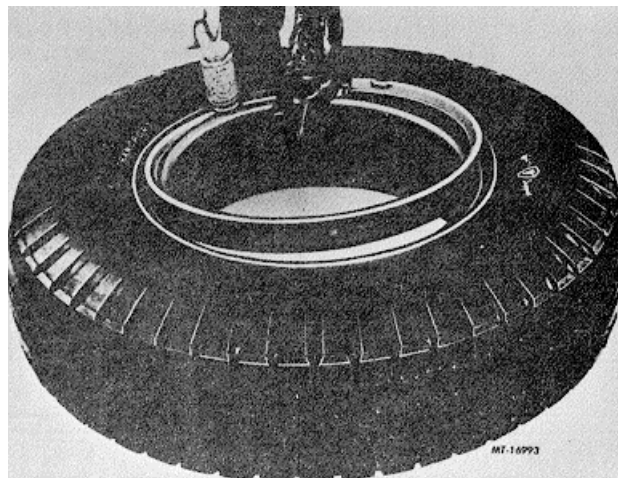

Fig. 47
3. Fasten lock-ring by holding at one end of split with foot and hammering end of ring into place with rim mallet (Fig. 47).